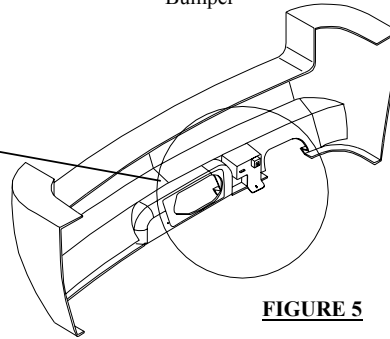

FIGURE 5
- c. On newer models more extensive inner fascia trimming required for proper fit. As shown in **Figure 5**.